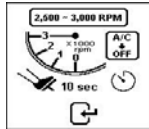

Fig.43
4. Start the engine if it is not running and maintain at idling condition. Make sure the air condition is OFF. Press  key to continue and the display will show: (Fig.43)